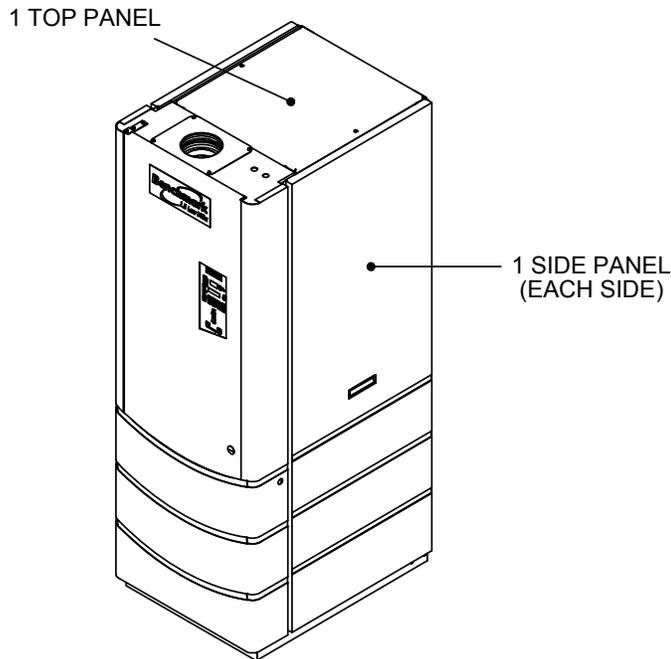

Figure 1. Benchmark 2.0 Low NOx (LN) Boiler (VFD Design)
5. Refer to Figure 1 and remove the top and side panels of the unit.